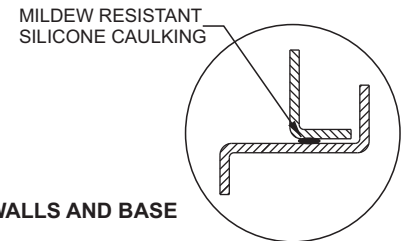

FIGURE 6
- Apply mildew resistant silicone caulking along the mating edge of the left hand wall panel with the base, see Fig.6.